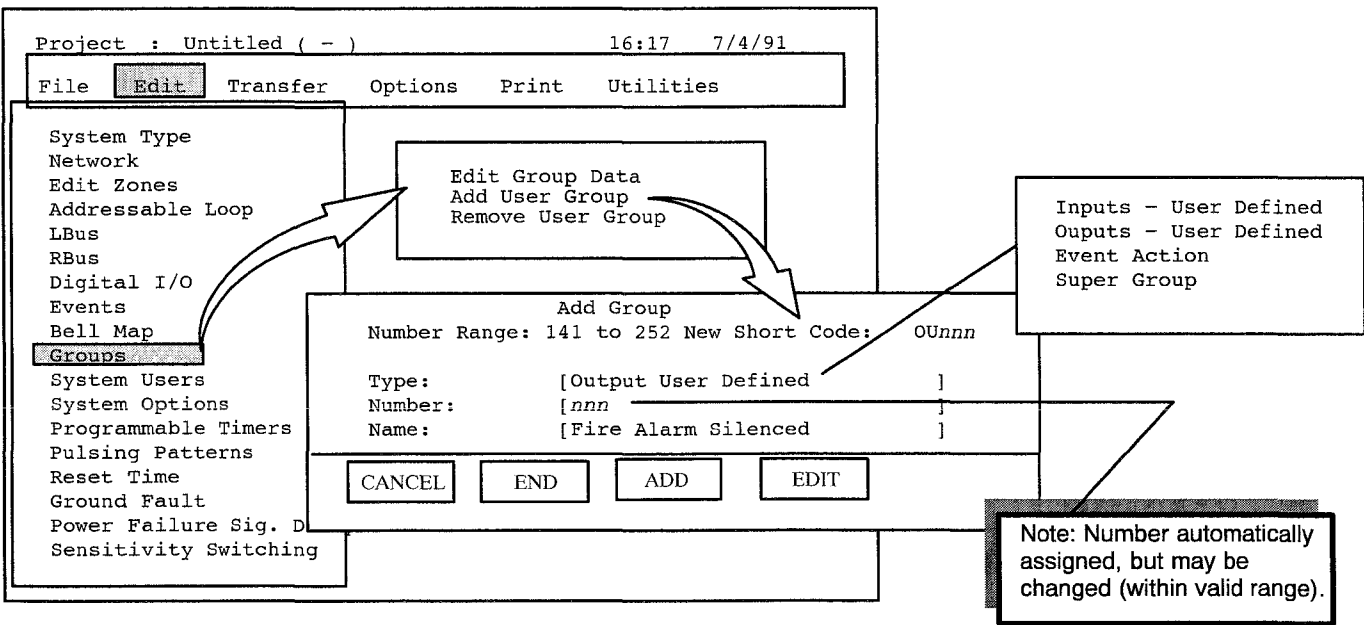

Figure 4. Adding User Defined Group for "Fire Alarm Silenced" output.
1. Add User-Defined Output Group "Fire Alarm Silenced." See Figure 4.